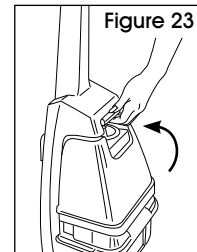

Figure 23
6. Position bottom of tank into unit and press on tank handle to snap tank into place. (See Figure 23)